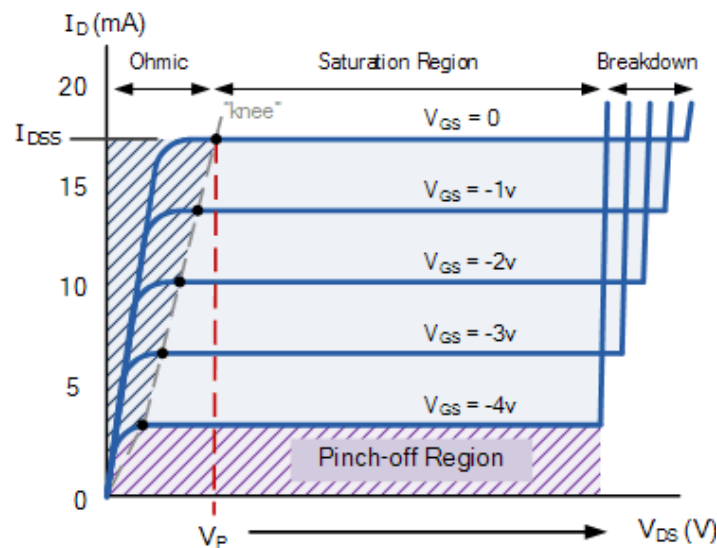

Figure 9.2 Drain Characteristics
- c) Plot the data you recorded in Table 9.1. Your results should look like Fig 9.2. Based on your plot, estimate V_P and V_{TH} . Mark V_P on your plot.